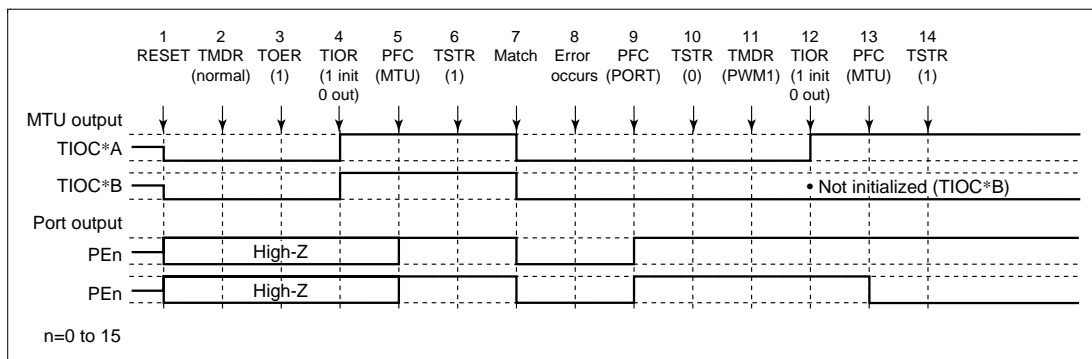

Figure 12.97 Error Occurrence in Normal Mode, Recovery in PWM Mode 1
(2) Operation when Error Occurs during Normal Mode Operation, and Operation is Restarted in PWM Mode 1: Figure 12.97 shows an explanatory diagram of the case where an error occurs in normal mode and operation is restarted in PWM mode 1 after re-setting.